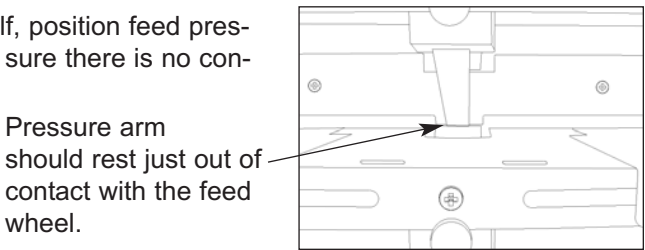

Figure 10
1. Using the adjustment knob on the front of the feed shelf, position feed pressure arm so that it is just above the feed wheel. Make sure there is no contact. (Figure 10).